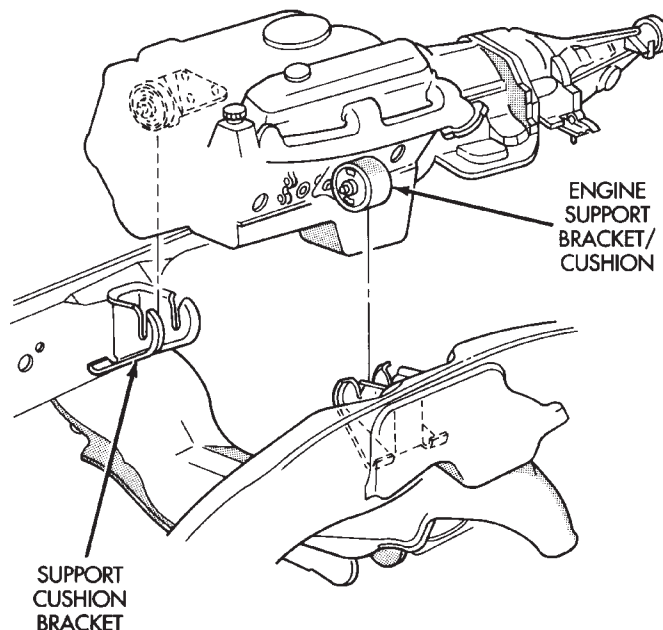

Fig. 12 Positioning Engine Mounts—Front
- (1) With engine raised SLIGHTLY, position the engine support bracket/cushion and heat shields to the block. Install new bolts and tighten to 81 N·m (60 ft. lbs.) torque.
- (2) Install the thru-bolt and 2 piece rubber engine rubber restrictors onto the engine support bracket/cushion.
- (3) Lower engine with support/lifting fixture while guiding the engine bracket/cushion and thru-bolt into support cushion brackets (Fig. 12).